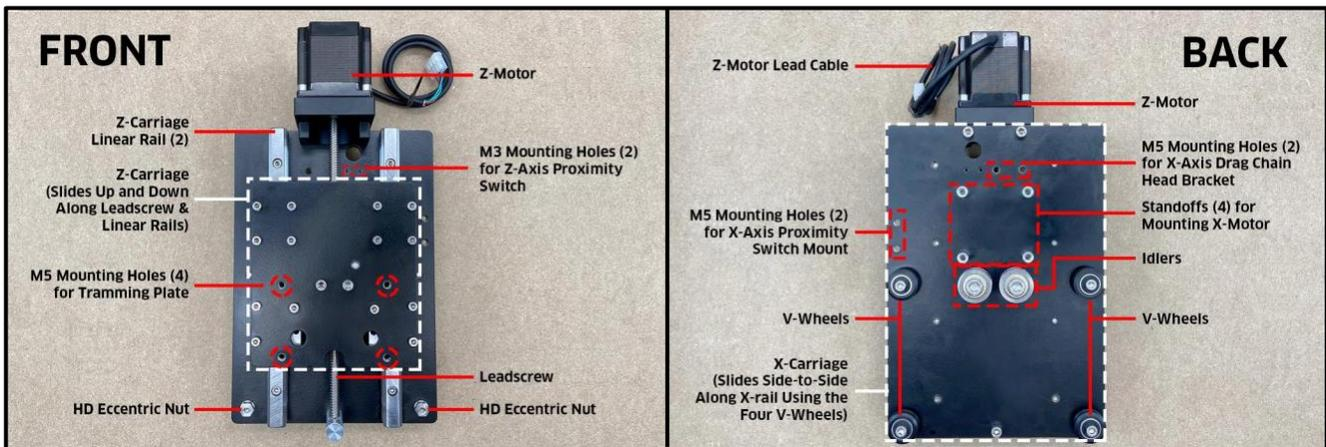

Figure 8
1. Take a minute to familiarize yourself with the front and back of the Z-Plus. See *Fig. 8*.